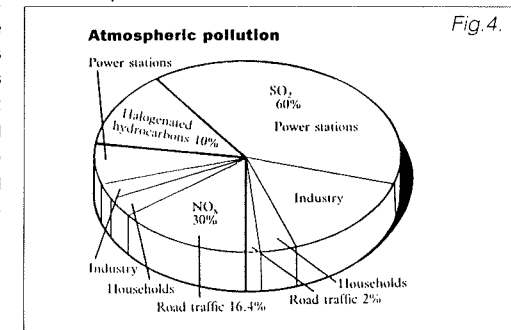

Fig.4.
There are many factors contributing to air pollution, Fig.4., of which the car is one. The car engine and fuel system are responsible for producing a number of gaseous pollutants, the 3 most important being, Hydrocarbons (H.C.), Carbon Monoxide (CO) and Oxides of Nitrogen (NOX).